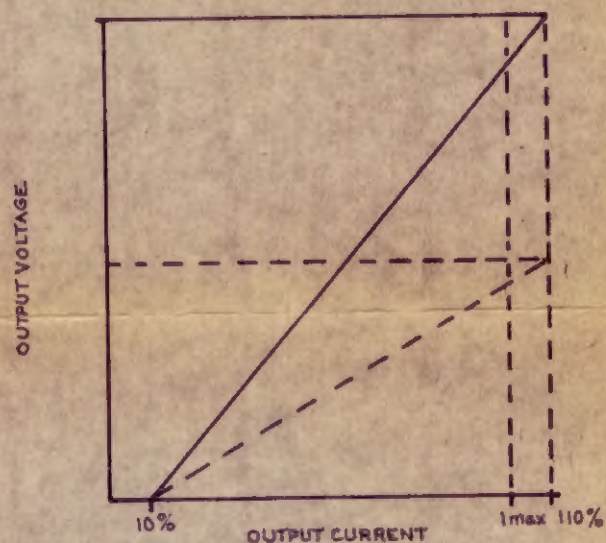

Fig 5. Output Protection.
Typical output voltage/current curves are shown in fig. 5. The position of the current limit once set will remain typically within  $5\%$  of the setting over the temperature range  $0-50^\circ\text{C}$ .
**Parallel Operation.** Units which are set to approximately the same output voltage may be connected directly in parallel. By increasing load, the unit having the highest output voltage will carry the load until it current limits, thereafter the unit having the next highest voltage will supply the extra current until it limits, and so on. A typical output characteristic for a parallel combination of three units is shown on Fig. 5. The characteristic shows a series of descending steps in output voltage at the current limit points of individual units, the amplitude of the step depends on how closely the output voltages have been set and it may not be possible to adjust this to better than  $50\text{mV}$ .